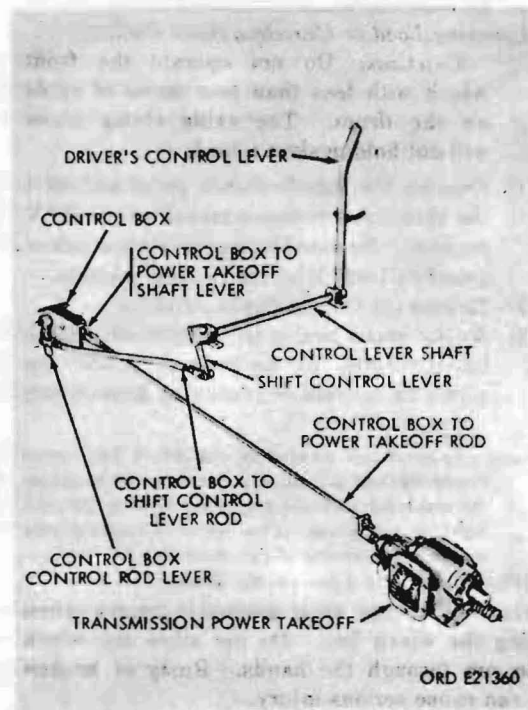

Figure 112. Hydraulic hoist control linkage.
a. The dump body and hydraulic hoist assembly (fig. 58) are mounted on a subframe secured to the truck chassis frame. Power for operation is obtained from the gear-type hydraulic hoist pump through the hoist pump drive shaft from the transmission power takeoff (fig. 112). Control of body operation is by the hydraulic hoist driver's control lever located to the left of the driver's seat. The dump body endgate is arranged to pivot at the top for normal dumping. The endgate can also be lowered from the top to the horizontal position held by chains. The endgate is held in the closed position by linkage operated by the dump body endgate hand lever mounted at the front left corner of the body. The linkage is self-locking when the lever is up against the body, and the endgate is held closed by latches connected to the linkage.
a. Hydraulic Hoist Control Box (Fig. 114). The hydraulic hoist driver's control lever, located left of the driver's seat, operates the control lever shaft and the shift control lever (fig. 112) which extends through the cab floor. The shift control lever is attached to the control box rod, which is connected to the hydraulic hoist control box. The hydraulic hoist control box is located at the front of the hydraulic hoist control valve. The control box contains two cams which are operated by the shift control lever connected to the control lever in the cab. The contour of these cams permits separate positioning of cams according to the position of the driver's control lever in the cab. The power-takeoff lever, mounted on the control box, is connected to a rod which is connected at the other end to the transmission power takeoff. The control box valve shaft levers operate the hoist control valve (fig. 113) which controls body movement. The transmission power-takeoff shifting lever does not have to be moved from the NEUTRAL position to operate the hydraulic hoist mechanism.